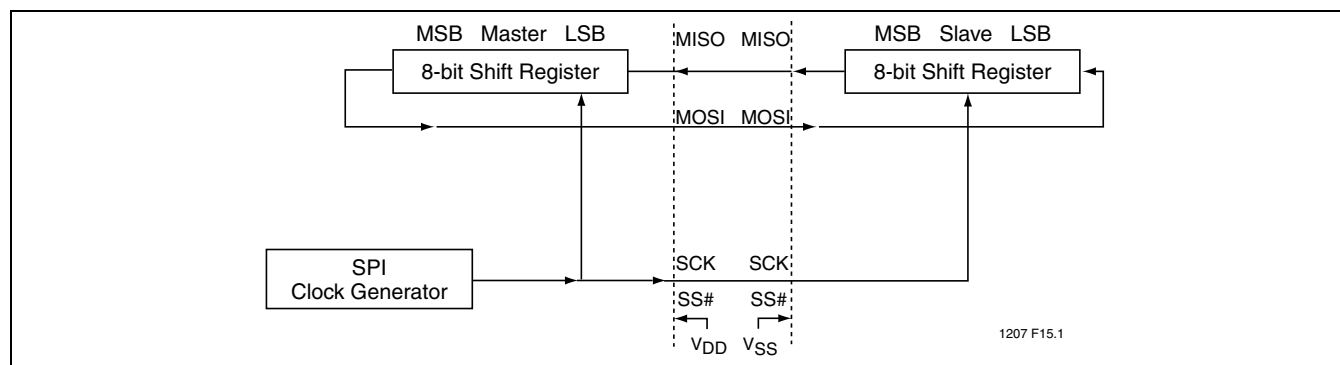

FIGURE 6-4: SPI MASTER-SLAVE INTERCONNECTION
Figure 6-4 shows the correspondence between master and slave SPI devices. The SCK pin is the clock output and input for the master and slave modes, respectively. The SPI clock generator will start following a write to the master devices SPI data register. The written data is then shifted out of the MOSI pin on the master device into the MOSI pin of the slave device. Following a complete transmission of one byte of data, the SPI clock generator is stopped and the SPIF flag is set. An SPI interrupt request will be generated if the SPI Interrupt Enable bit (SPIE) and the Serial Port Interrupt Enable bit (ES) are both set.